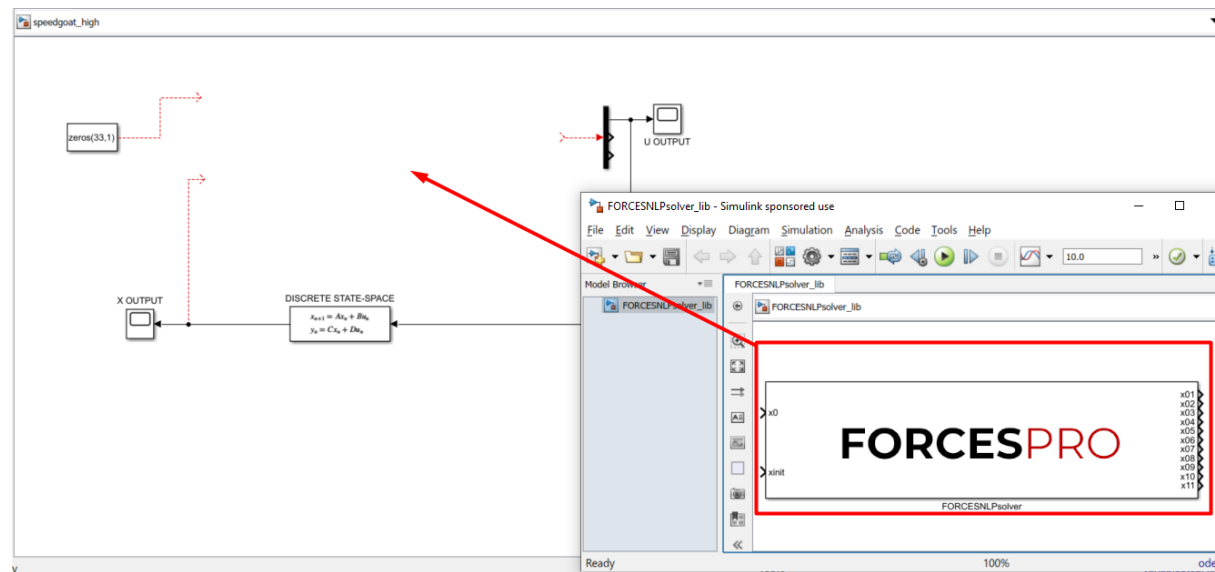

Figure 13.65: Copy-paste and connect the FORCESPRO block.
6. (Figure 13.65) Copy-paste the FORCESPRO Simulink block into your simulation model and connect its inputs and outputs appropriately.